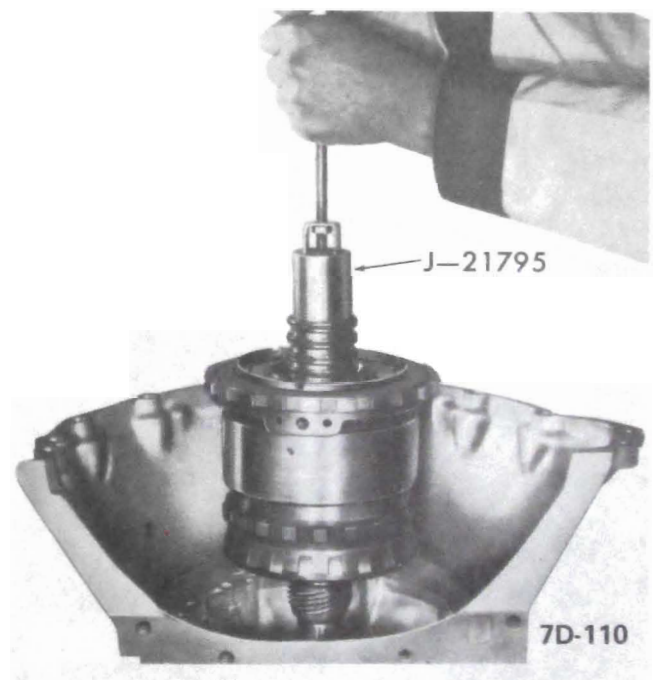

Figure 7D-57
19. Place gear unit assembly with output shaft facing down in hole in work bench. See Figure 7D-58.